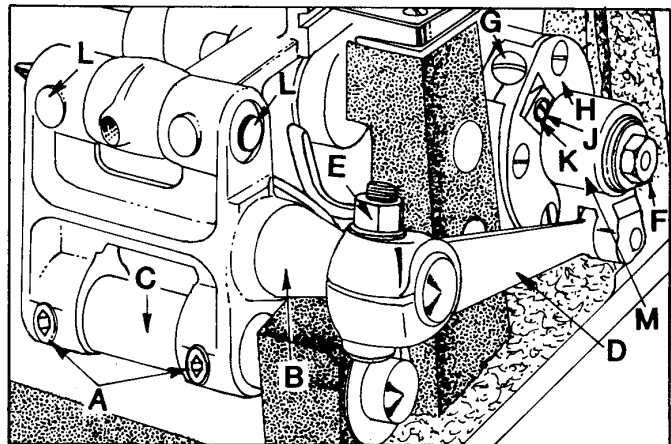

Fig 11
Right to left adjustment can be made by loosening screw (A, Fig. 11) and slightly move feed rocker (B) on feed rocker shaft (C) as required, then retighten screws. Check to ensure that feed rocker arm (D) does not bind after adjustment.
Forward or rearward centering of the feed dog can be accomplished by loosening nut (E, Fig. 11). Move feed rocker (B) as required and retighten nut.
**CAUTION:** Feed crank link sub-assembly (M, Fig. 11) **MUST** have shake with **NO** binds at a 360° rotation of the handwheel. Nut (F) should be torqued at 55 in. lbs. (63 cm/kg).
Set the stitch to required length. This is accomplished by loosening locknut (F, Fig. 11) on the end of the stitch regulating stud 1/2 turn (it has a left hand thread). Turn stitch adjusting screw (G) located under the left end of the cloth plate, in the end of main shaft (H), which is marked with "L" and "S". Turning the screw clockwise shortens the stitch (moves stitch regulating stud toward the "S") and turning it in a counterclockwise direction lengthens the stitch (moves stitch regulating stud toward the "L"). Retighten locknut securely. To prevent destructive damage to the feed drive bearing, key screw (J) must engage the "U" shaped key slot in ferrule (K).
Needle bearings in the feed rocker at locations (L, Fig. 11) may require repacking after years of service. Bearings should be thoroughly cleaned and repacked with Union Special Corporation grease No. 28604P.